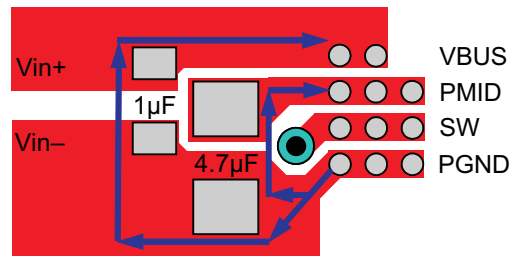

Figure 41. Input Capacitor Position and PCB Layout Example
- Place 4.7 $\mu$ F input capacitor as close to PMID pin and PGND pin as possible to make high frequency current loop area as small as possible. Place 1 $\mu$ F input capacitor as close to VBUS pin and PGND pin as possible to make high frequency current loop area as small as possible (see Figure 41).